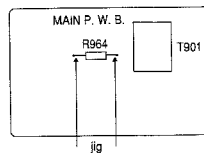
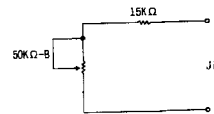

Fig. 1
Fig. 3
5. Turn the switch of the set to off and connect the jig shown in Fig.3 at both ends of R964 as shown in Fig. 1.